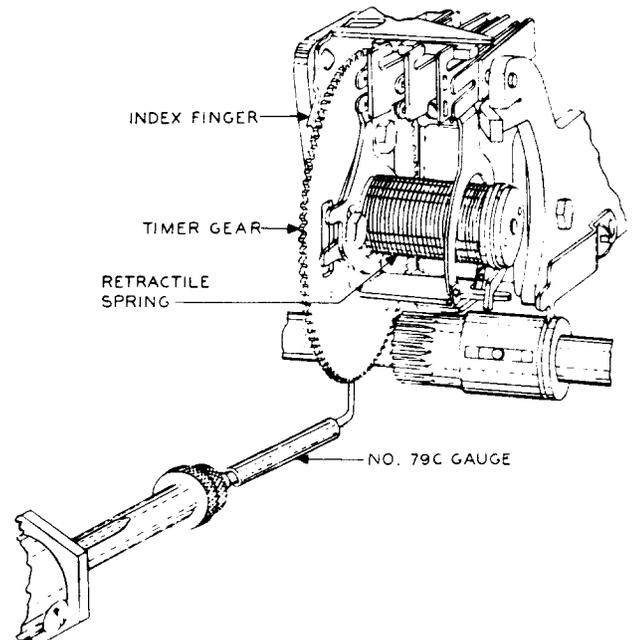

Fig. 18 - Checking Retractable Spring Tension
To check this requirement, proceed as follows. Rotate the gear approximately one quarter of a revolution to operate the tripping mechanism, thus insuring that the spring tension is at a minimum. Allow the gear to restore against its stop. Then apply the gauge to the bottom of the gear as indicated in Fig. 18. Hold the gauge horizontally and apply pressure gradually toward the rear of the timer until the gear moves from its normal position. Continue exerting pressure until the gear has moved from four to six teeth away from the normal position. Note that the pressure required to move the gear is not in excess of the specified 50 grams. Gradually reduce the pressure until the gear restores to its normal position and note that the gauge reading does not go below the value specified until the gear has restored fully against its stop.
- ↗ To check this requirement, proceed as follows. Rotate the gear one quarter of a revolution to operate the tripping mechanism, thus insuring that the spring tension is at a minimum. Allow the gear to restore against its stop. Then manually rotate the gear to the point where the front end of the pawl rests on the top of the pawl stop at approximately its center. Hold the gear in this position and apply the gauge to the gear as shown in Fig. 18, applying sufficient pressure to prevent the gear from restoring to normal. Gradually reduce the pressure until the gear starts to move toward the normal position. Check that the gauge reading, as the gear starts to move, is not less than the specified value.